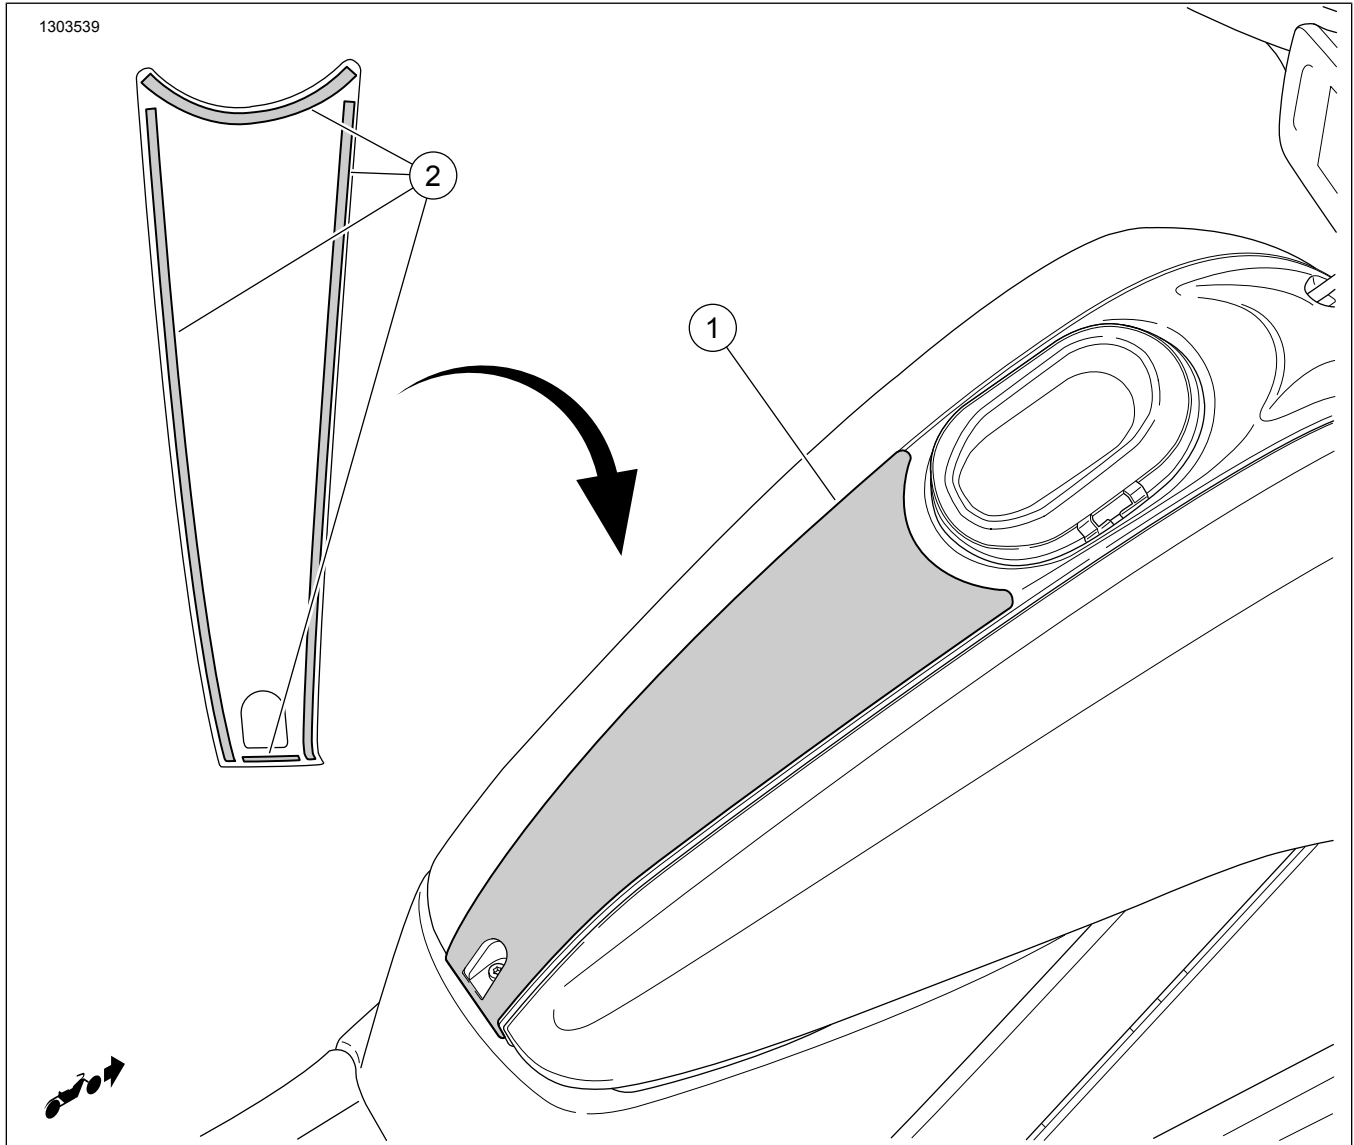
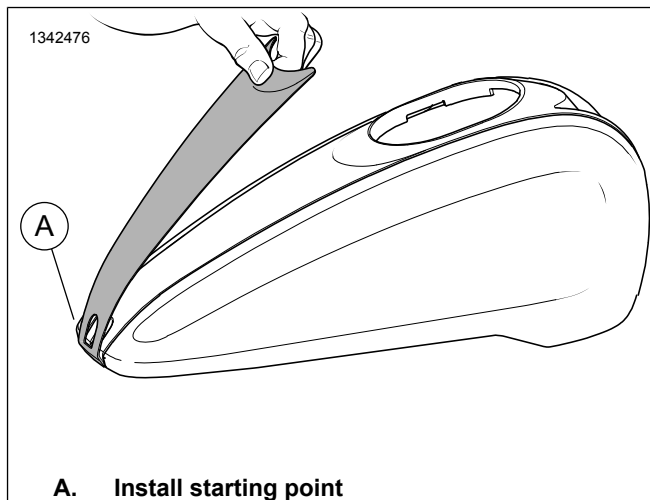

Figure 1. Kit Contents: Tank Strap
Figure 2. Tank Strap Installation
1. See Figure 1. Thoroughly clean area with a 50:50 mix of isopropyl alcohol and water. Allow to dry completely.
2. Remove tape protecting the adhesive pads (2) on the inside of the tank strap.
3. Figure 2 Install tank strap to tank.